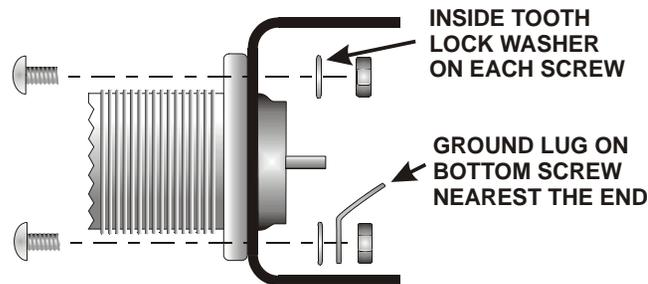

Figure 37. Mounting the Antenna Connector J1 on the Back Panel.
□ Mount antenna connector J1 on the cabinet back panel using four 5/16" 4-40 pan head zinc screws, lock washers, nuts and one ground lug as shown in Figure 37. Be sure the ground lug is on the lower screw nearest the end of the back panel and faces upward as shown. The antenna connector is an S0-239 (UHF) connector on the XV50 transverter, and a type "N" connector on the XV144 and XV222 transverters.